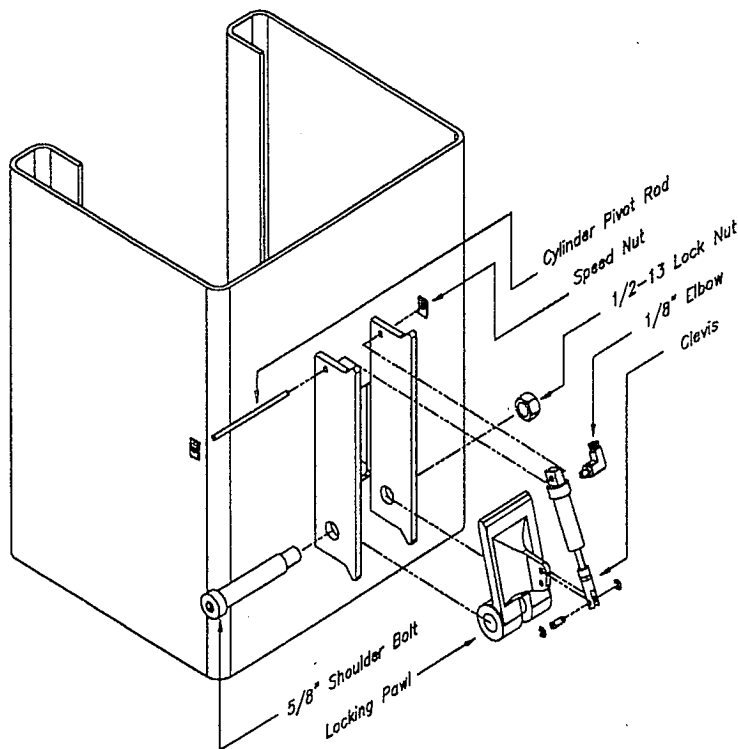
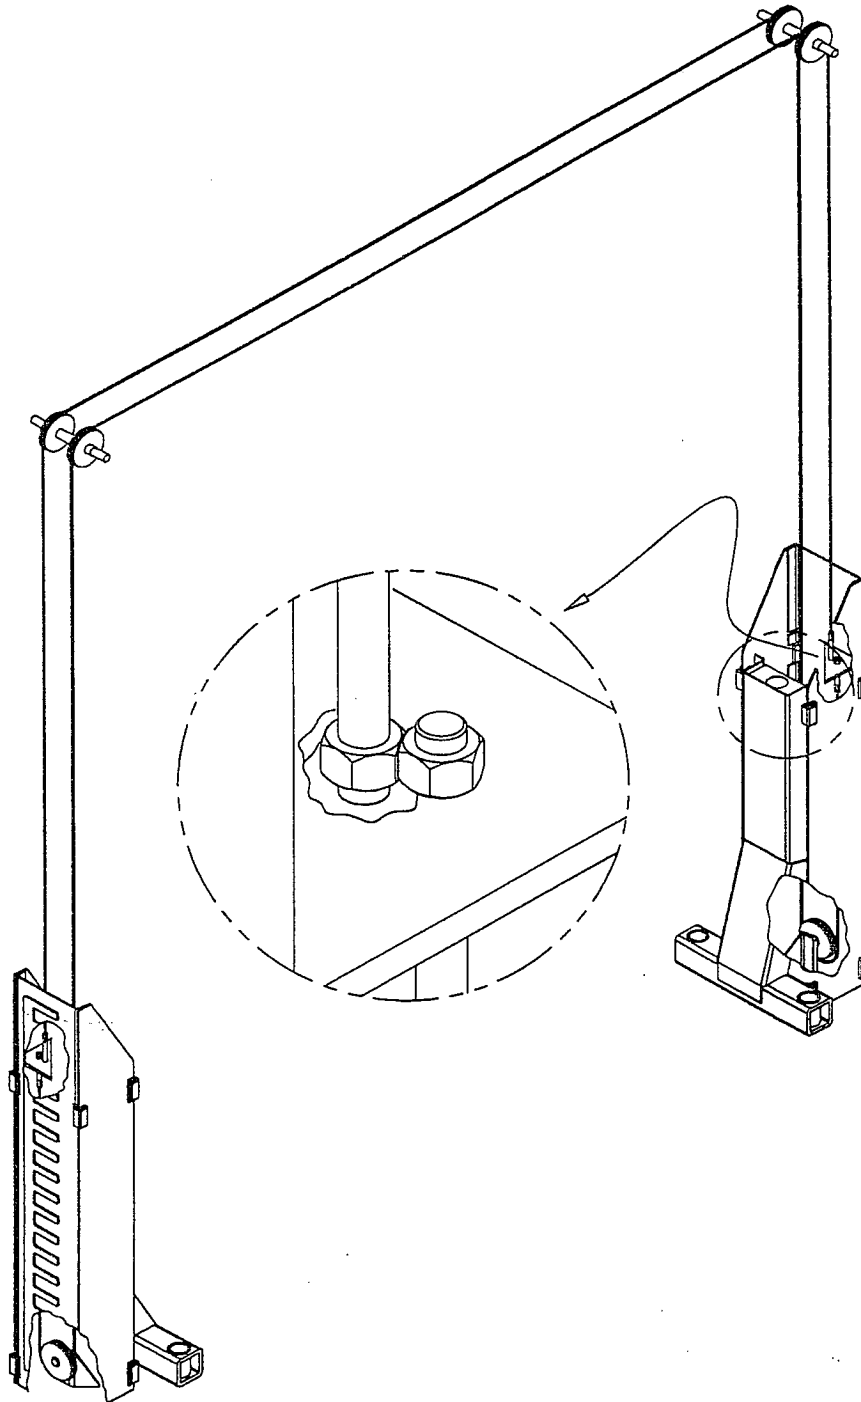

Fig 6
Fig 7
10. Install the locking pawl and actuator as shown in *Figure 6*. With the aid of an assistant, manually raise the carriages to a comfortable working height and set in locks at equal heights. Route the synchronizer cables as shown in *Figure 7*.